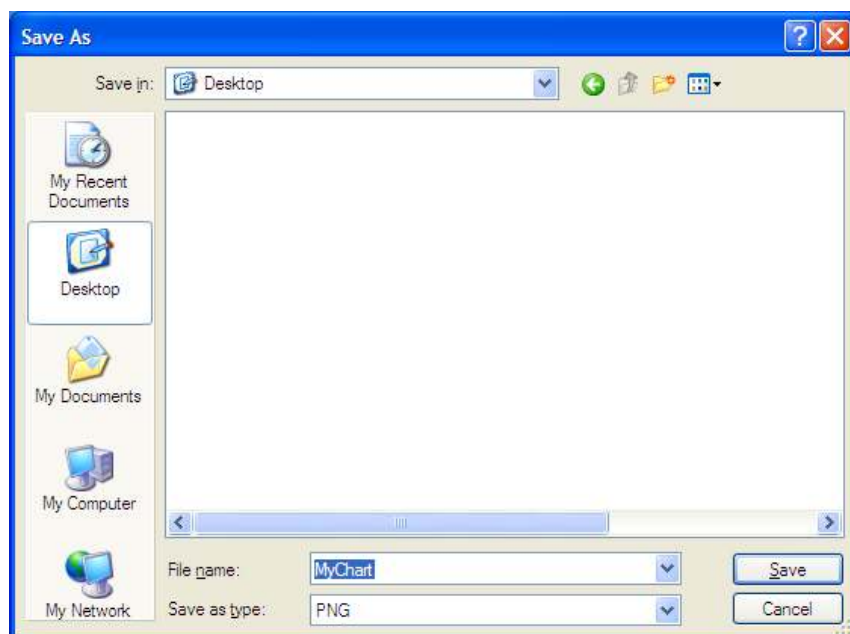

Figure 7.19 Chart Image Export dialog
- ⇒ The File Save dialog is opened (Figure 7.19).